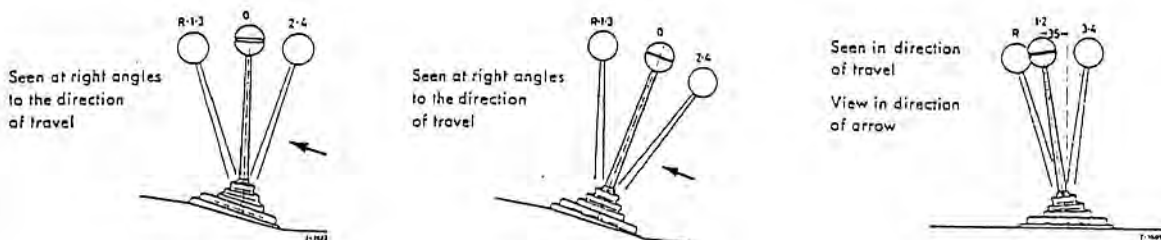

Fig. 26-3/3
If the shift lever knocks against the shift lever bearing (12) when a gear is being engaged, the length of the two push rods (8) should be adjusted (Fig. 26-3/2). To do this remove the push rods from the lug of the transmission case cover and turn the end pieces (7) until the bolts of the push rods (8) in the shift lever bearing (12) are situated in the center of the cover plate (14). The important point is that the two end pieces should always be adjusted by the same amount.
As from November 1965 all cars with floor-mounted gear shift system are provided with a shift lever bent forward by 55 mm. in the direction of travel; the new design increases elbow room. There is no change in the lever positions in the direction of travel (see sketch on the right). At right angles to the direction of travel the lever positions have been shifted forward by approx. 55 mm. (see sketch on the left) compared with the previous version (see sketch in the middle) (Fig. 26-3/3).